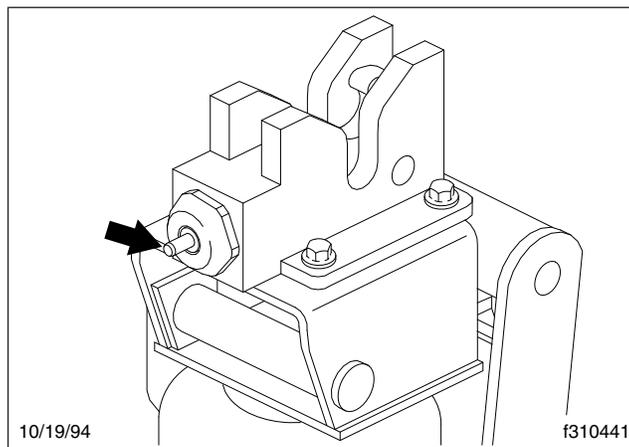

Fig. 17, Indicator Pin
- IMPORTANT:** Check the indicator pin on each cab latch. The latches have disengaged if the pins are out. See Fig. 17.